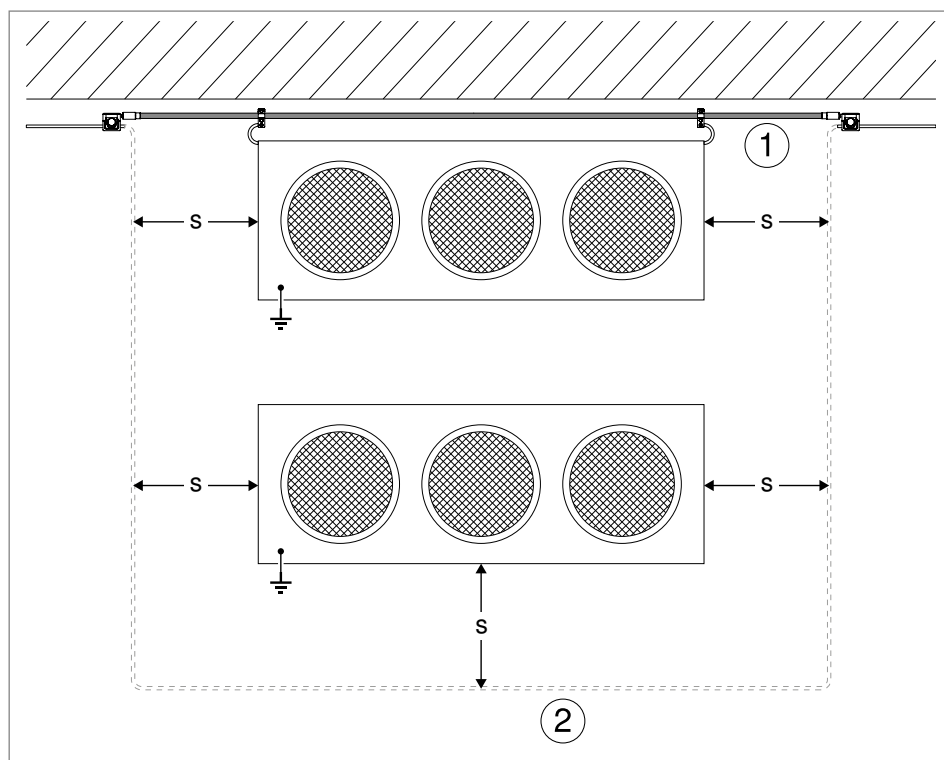

Fig. 65: Including the isCon® conductor in a conventional ring conductor
In areas in which a conventional ring conductor would be difficult to install whilst maintaining the required separation distance (s) (e.g. to roof structures) (see Fig. 65 No. ②), the isCon® conductor ① can be integrated into the mesh, provided that the calculated separation distance is less than or equal to the equivalent separation distance of the isCon® conductor used.